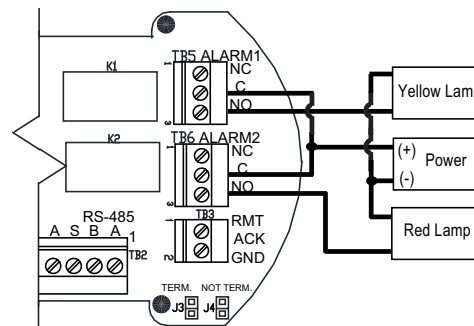

Figure 4-19: Relay/Alarm Connection Example – Terminal/Relay/MODBUS PCB
5. If desired, connect the wiring from the receiver equipment to one or more of the four (4) relays on the terminal/relay/MODBUS RS-485 PCB. Relays are designated ALARM1 (TB5, K1 for Relay 1), ALARM2 (TB6, K2 for Relay2), ALARM3 (TB7, K3 for Relay3) and FAULT (TB8, K4 for Relay4). Each relay has three (3) pins for wiring; a Normally Open (NO), a Normally Closed (NC), and a Common (C) (refer to Figure 4-19: Relay/